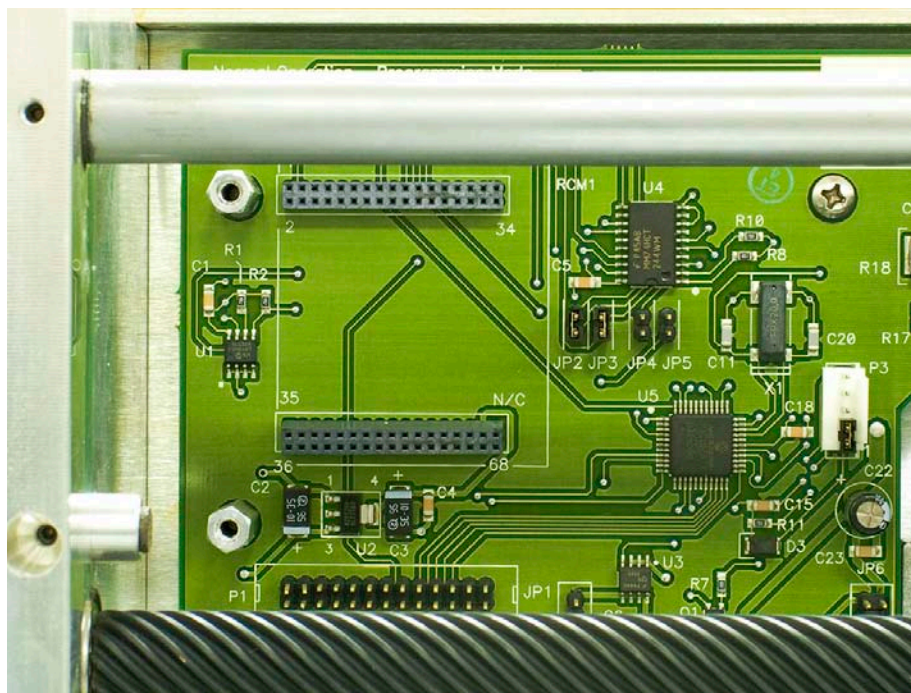

Figure 1-42 Mainboard shown with rabbit module removed
1. Remove existing Rabbit processor module from the main board (See Figure 1-41 for location of Rabbit module) by pulling straight outward and firmly on the Rabbit module, gripping it by the sides. Do not use any tools to remove the module, as damage to the module and/or main board WILL result. See Figure 1-42 for photo of Rabbit module removed from mainboard.